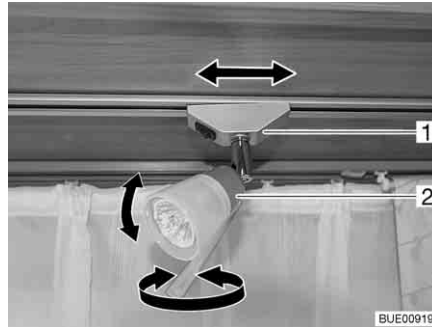

Fig. 71 Spotlight
- Grasp the housing (Fig. 71,2) and turn it.
- Grip holder (Fig. 71,1) and turn by approx. 45°.
- Grip holder (Fig. 71,1) and turn by approx. 90°.